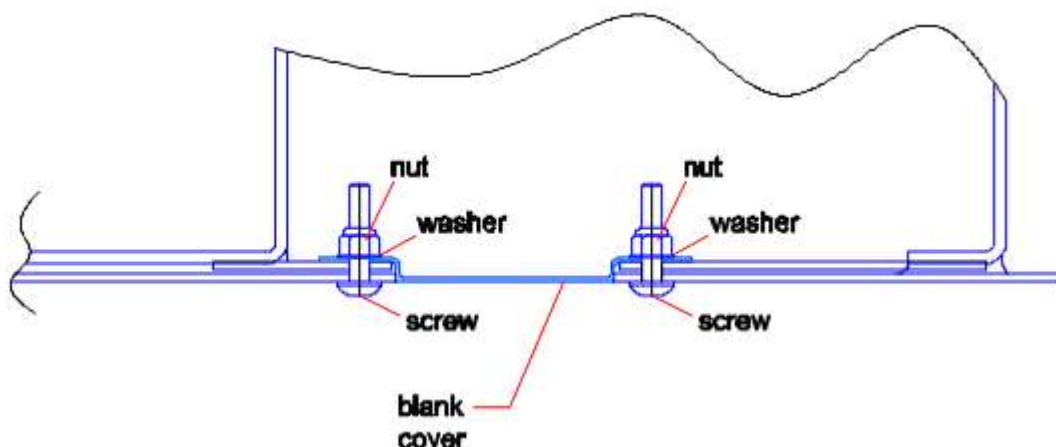

Figure 1. EPU blanking plate (view looking down).
7. Remove the EPU blanking plate and hardware from the left side of the fuselage. See Figure 1.